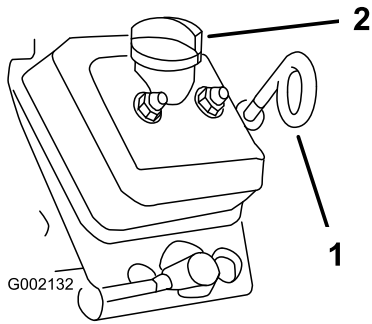

Figure 20
2. Clean around the oil dipstick (Figure 20) so dirt cannot fall into the hole and damage the engine.